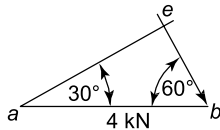
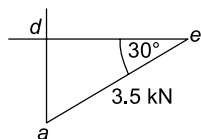
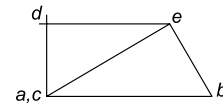

Figure 6.16
Figure 6.17
Figure 6.19
Consider joint *ABE*, as there are only two unknown forces here, namely the forces in the members *BE* and *EA*. Working clockwise around this joint, the vector diagram for this joint is shown in Figure 6.16.
Joint (2) cannot be considered next, as it has three unknown forces, namely  $H_2$ ,  $R_2$  and the unknown member force *DE*. Hence, joint (1) must be considered next; it has two unknown forces, namely  $R_1$  and the force in member *ED*. As the member *AE* and its direction can be obtained from Figure 6.16, it can be drawn to scale in Figure 6.17. By measurement,  $de = 3$  kN.
As  $R_1$  is vertical, then the vector *da* is vertical, hence, the position *d* can be found in the vector diagram of Figure 6.17, where  $R_1 = da$  (pointing downwards).
The complete diagram for the whole framework is shown in Figure 6.19, where it can be seen that this diagram is the sum of the vector diagrams of Figures 6.16 to 6.18.